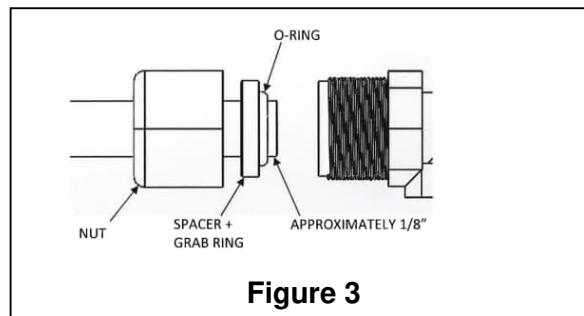

Figure 3
3. Completely unscrew the nut from the connector. Slide the nut on to the tube (see Figure 3).